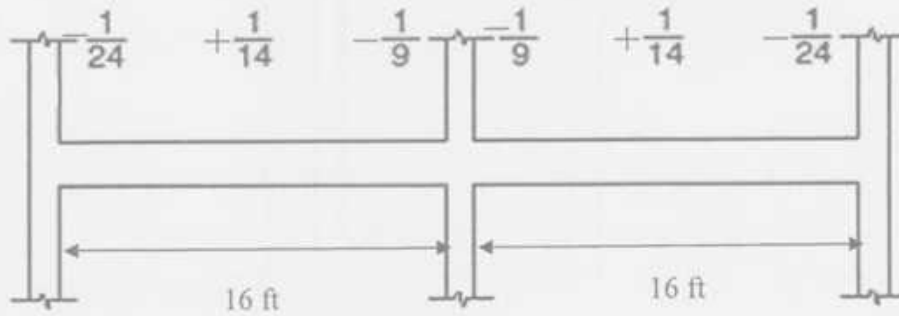

Figure-7
- b) Write down the minimum thickness for one-way slab for different support conditions specified by the ACI code. (4)
8. a) A reinforced concrete one way slab is built integrally with its supports and consists of two equal spans. The slab panels are continuous in one direction and each panel has a clear span of 16 ft (Figure-7). The service live load is 100 psf and 4000 psi concrete is specified for use with steel with a yield stress equal to 60000 psi. Design the slab and show the reinforcement detailing. Note, this slab should be okay for serviceability. Use ACI moment co-efficients (shown on the top of the longitudinal slab sections). (18)